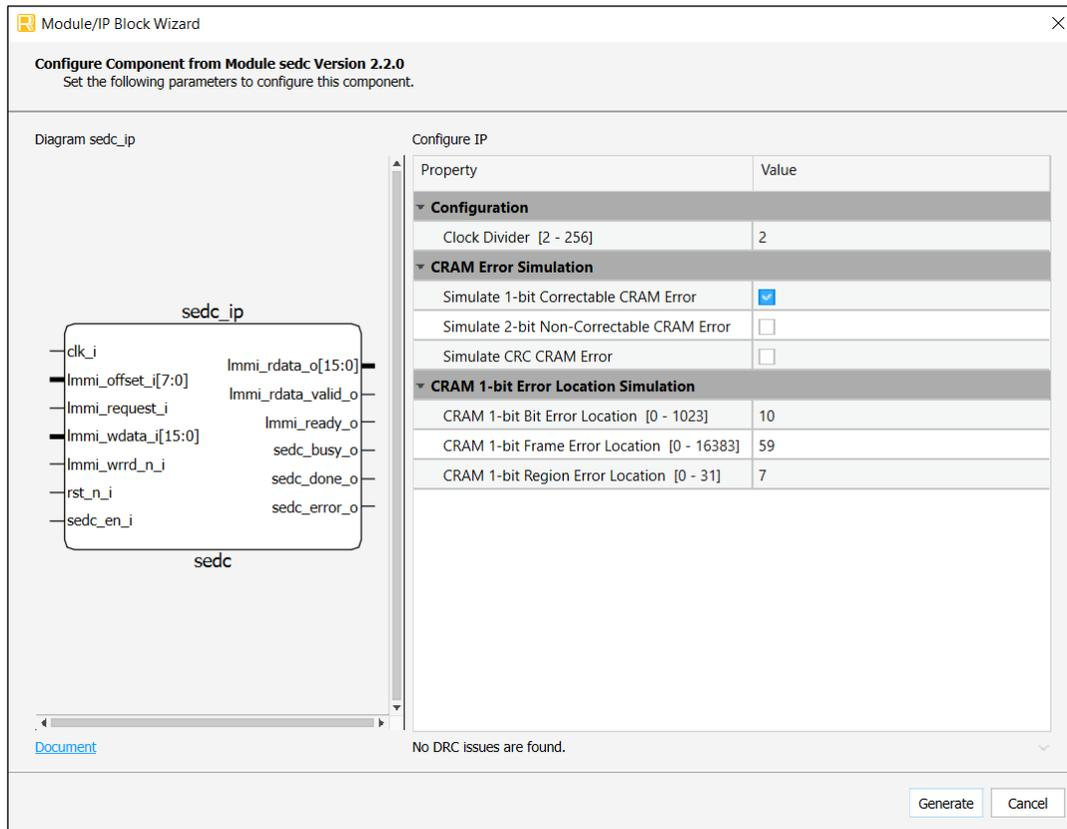

Figure 3.2. Configuration Window
- In the next **Module/IP Block Wizard** window, customize the selected SEDC IP using fields and check boxes. Figure 3.2 shows an example configuration of the SEDC IP. For details on the configuration options, refer to the Attributes Summary section.